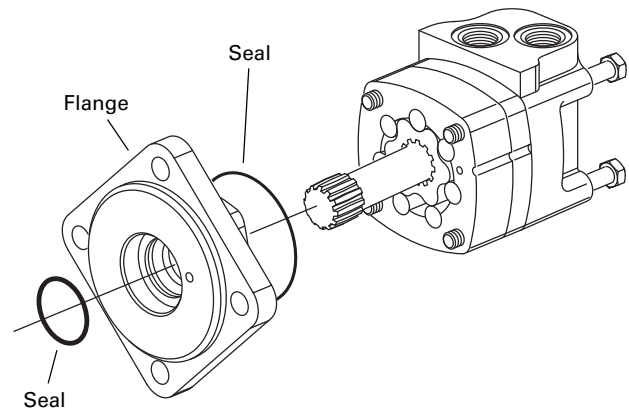

Figure 22.
2. Make sure the lock nut and its threads are clean and dry for the proper torque. Position the lock nut against the alignment nut as shown in Figure 22.
3. Move the washer and the o-ring up against the speed sensor body threads as shown in Figure 22.